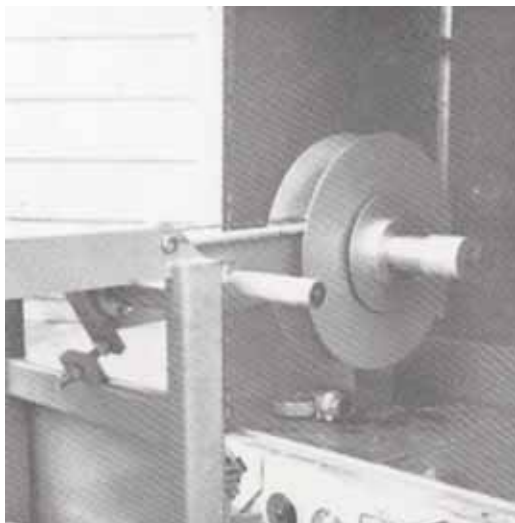

Figure 25
M. At this point the stock roll arm and mandrel should be in the position shown in Figure 25. Remove the knurled bolt from the stock mandrel.